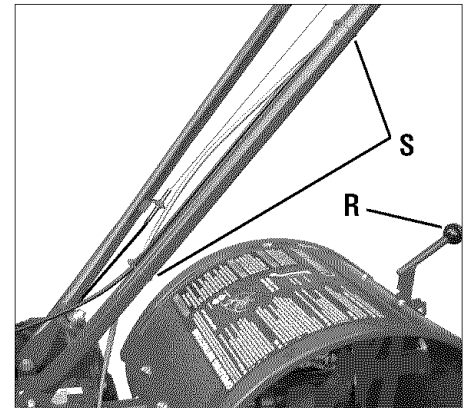

Figure 2-13: Attach wheel gear cable and reverse clutch cable with cable ties (S).
1. With the tiller on level ground, pull the Depth Regulator Lever (R, Figure 2-13) back and then slide it to the second notch from the top. **NOTE:** If the lever does not move, lift the tine hood flap and look for a plastic tie securing the lever in place. Cut and remove the tie.
3. Use a small board or rubber mallet to tap the Wheel Gear Lever knob securely onto the lever (R, Figure 2-13).
4. Secure the wheel gear cable and the reverse clutch control cable to the left-side handlebar with two plastic ties (S, Figure 2-13) located about two feet apart. Snip off any excess tie length.